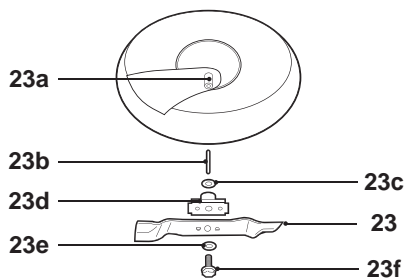

Fig. 21
1. Keep the underbody and cutting device (23) clean and free of debris. Remove clippings from the discharge chute (24).
3. Keep the cutting device (23) sharp to ensure a good cutting performance. Replace a worn or damaged cutting device with a new one of the same type or have it sharpened by a qualified specialist.
4. Loosen the hex bolt (23f) anti-clockwise using a suitable wrench and remove it together with the locking flange (23e), cutting device (23), support (23d), ring (23c) and pin (23b) (Fig. 21).
- Lubricate the cutting device (23) after each use to prolong the life span of cutting device and product. Apply light machine oil along the edge of the cutting device (Fig. 21).